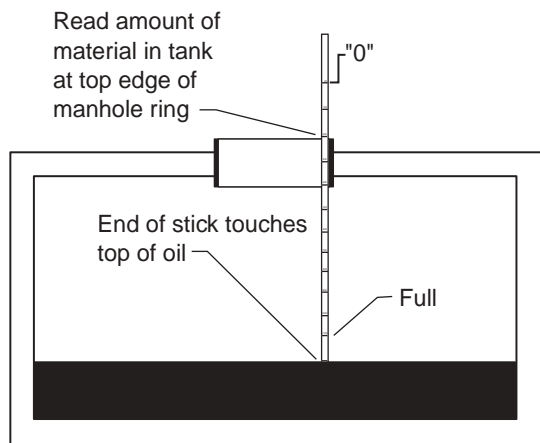

Figure 2. Using the Measuring Stick
4. Open the valve at the supply source and monitor the tank gage. When the gage indicates full, close the supply valve. (See Figure 2 for the use of the measuring stick.)
2. When the tank gage indicates full, close the supply valve. (See Figure 2 for the use of the measuring stick)